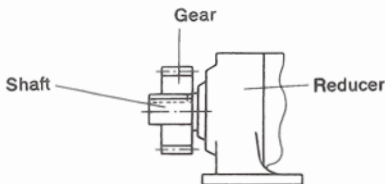
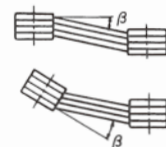

Fig.7
Fig.8
(2) When chain sprocket and gear are used
- Install sprocket and gears so that their point of load application will be closer to the gearmotor or reducer side with respect to the length of the shaft. (Fig.7)
(3) When V – belt is used
- The parallelism and eccentricity (β) between two pulleys should be within 20'. (Fig.8)